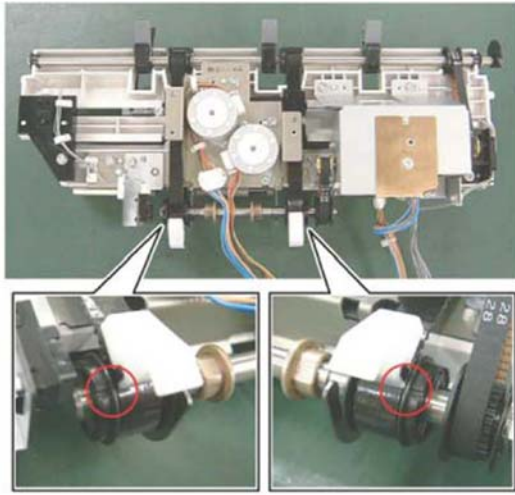

Figure 4 Eject belt installation
2. Ensure the eject belt is aligned with the marks on the pulleys, Figure 4.